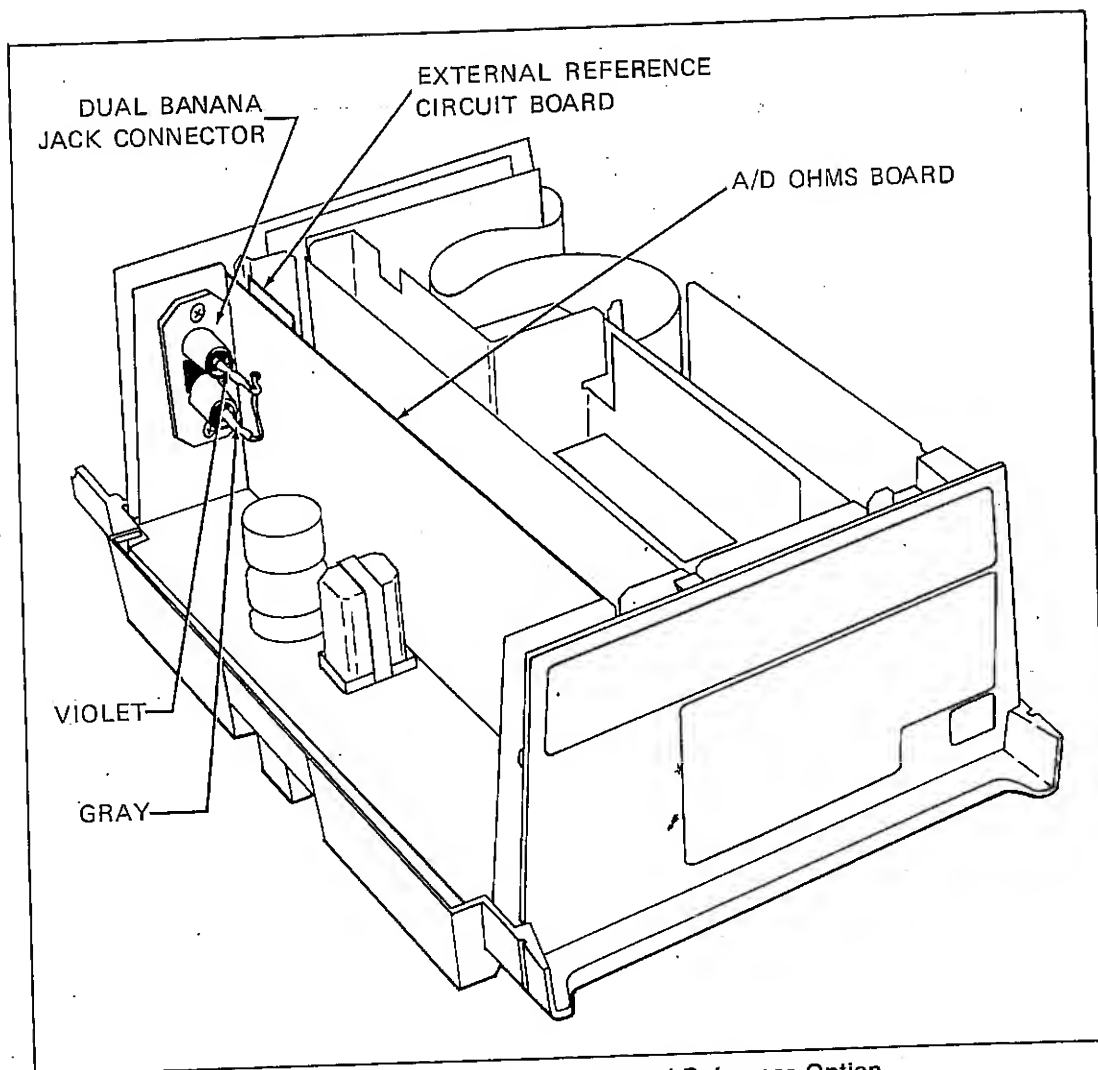

Figure 007-2. Installation of External Reference Option
4. Lift out the A/D-Ohms circuit board, shown in Figure 007-2.
5. Thread the two wires (Gray and Violet) from the External Reference circuit board through the hole at the rear, and from the component side of the A/D-Ohms board, as in Figure 007-2.
10. Connect the Gray wire to the lower jack and the Violet wire to the upper jack, as in Figure 007-2.